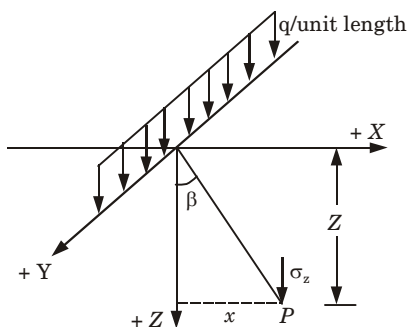

Fig. 4.8.1. Vertical stress due to line load.
- i. If the line load is of intensity q per unit length parallel to Y-axis on the surface of a semi-infinite elastic medium, the vertical stress σ_z at a point P , as shown in Fig. 4.8.1, is given by,